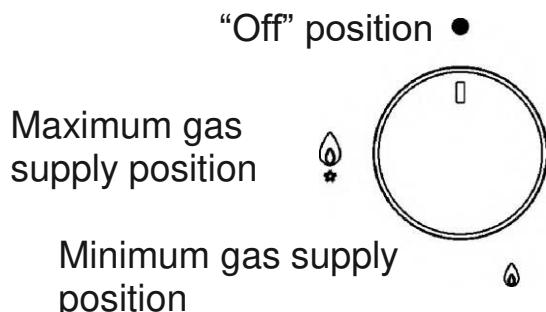

FIG. 1
Press and turn the control knob counterclockwise corresponding to the gas ring, which is planned to be used, until the knob is in "Maximum" position (high flame, Fig. 1). Then press the knob to stop.
If gas rings are equipped with control thermocouple, then turn the control knob counterclockwise corresponding to the gas ring, which is planned to be used, until the knob is in "Maximum" position (high flame, Fig. 1) and press it, when it comes to stop. When gas ring ignites, hold the control knob within about 10 second.
- Upon achievement of the boiling point, place the control knob into "Minimum" position (low flame, Fig. 1).
- Ignition of gas rings equipped with control thermocouple is possible, only if the control knob is in "Maximum" position (high flame, Fig. 1).